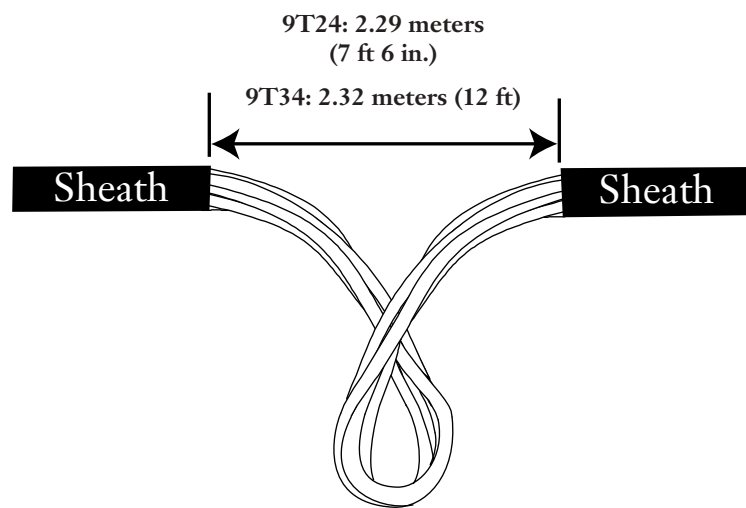

Figure 2 — Midspan Sheath Removal
Step 1 For midspan applications, remove the length of cable sheath and armor (where applicable) as indicated in Figure 2 according to the manufacturer's directions for the cable type being installed.
- Step 2** The cover can be removed, if necessary. Press *gently* on the plastic release lever as shown in Figure 2 and slide the cover to the right. Insert a hook-and-loop strap or large cable tie through the hanging opening on the cover and hang the cover from the messenger wire.